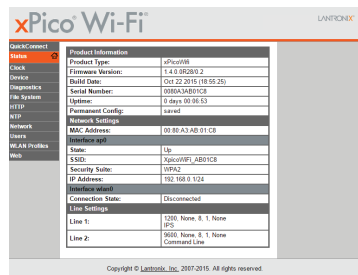

Figure 17: xPico WiFi Main Page
6. The XPico WiFi main page will open. Click on Quick Connect at the top of the menu and select the WiFi network to be used (e.g. H88d3). See Figure 17.